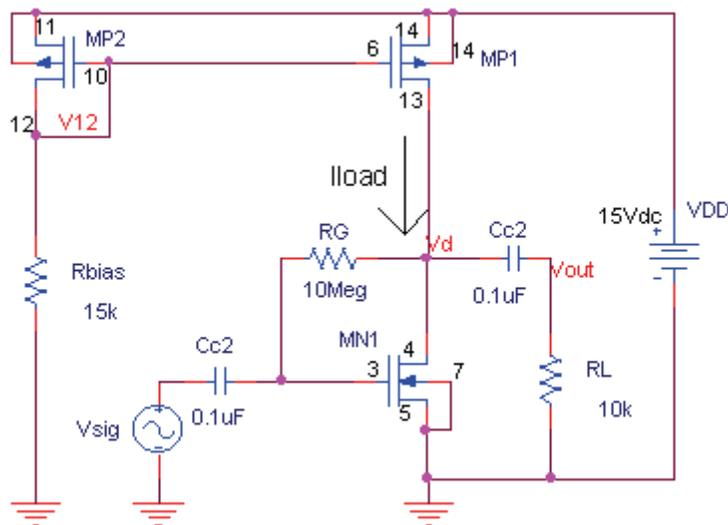

Figure 7: Common-Source amplifier with active load.
By replacing the current source by the current mirror, we obtain the complete amplifier with active load as shown in Figure 7. We have also added a load resistor R_L and a coupling capacitor C_{C2} .
- Build the circuit of Figure 7. For now do not include the load resistor R_L and a coupling capacitor C_{C2} . The pins of the transistor of the CD4007 array are given in the schematic. Use short jumpers on your protoboard to connect the pins of the transistors.